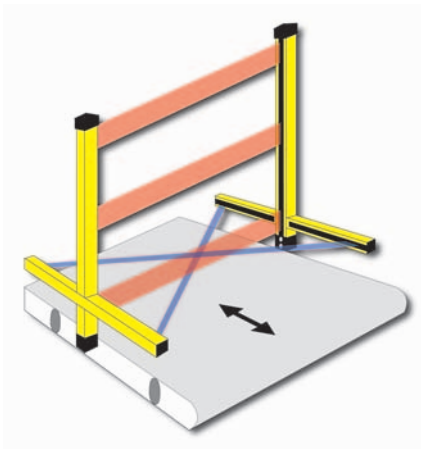

Figure 6
**Two (2) Crossed Beams with Control of Concurrent Activation ... T-Configuration** (see Figure 6)